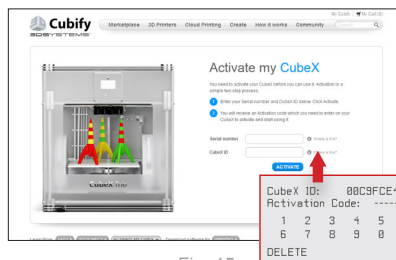

Fig. 15
- Enter the SERIAL NUMBER; the serial number is located on the interior back wall and on the back of the CubeX frame. (Fig. 15)
- Enter the CubeX ID; this ID can be found on the upper right corner of the CubeX touchscreen and click **ACTIVATE**. (Fig. 15)